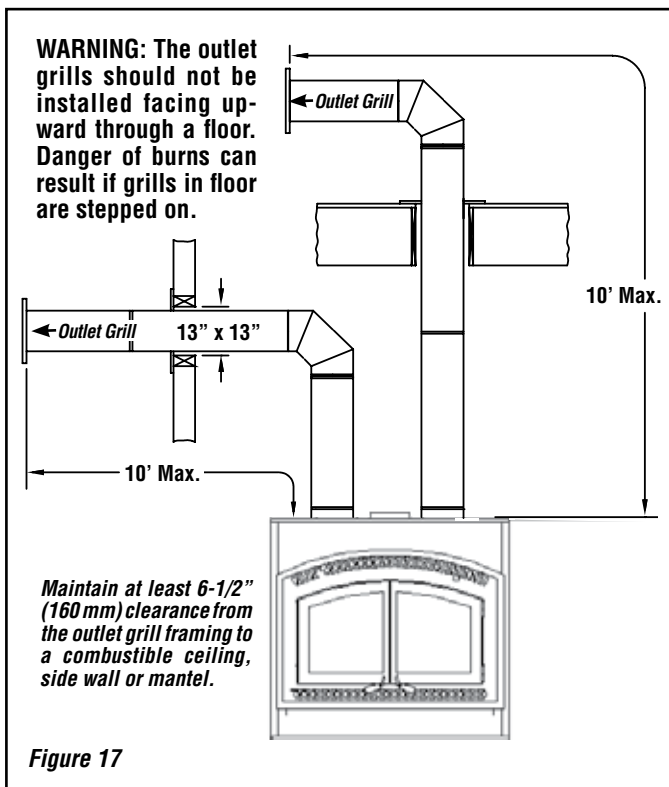

Figure 17
- Maximum length** See **Figure 17**
When installing the double outlet system, the hot air outlets can be installed in the same room as the fireplace, or one or both of the outlets can be installed in adjacent or upper rooms. Installing the ducts at different elevations will tend to exhaust more heat out of the higher outlet (Figure 17).